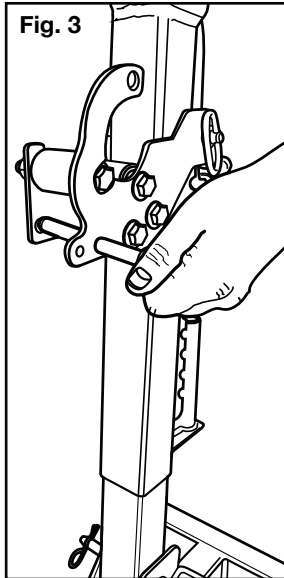

Fig. 3
2. Remove safety catch hook pin (10) from safety catch hook (9) to allow for roller cradle (2) exposure (Fig. 3 and 4).